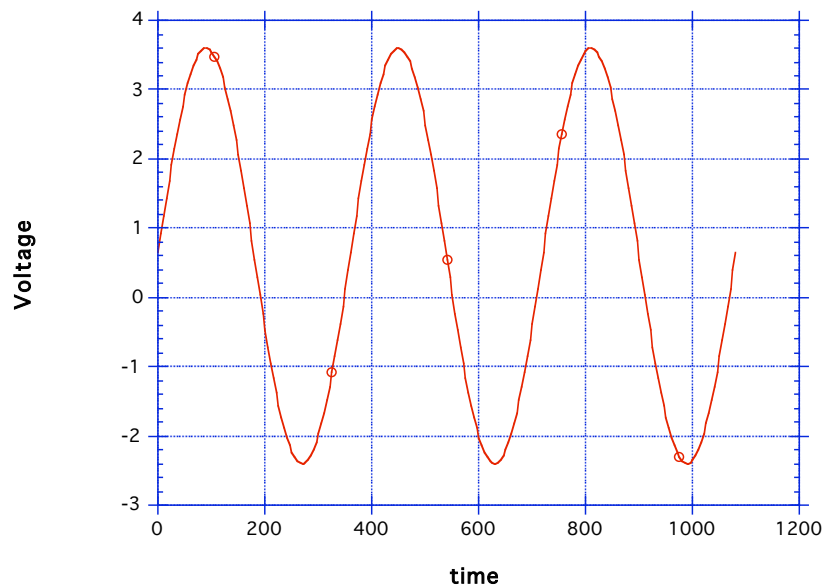

Figure 1: A 3 V sine wave with 0.6 V offset
1. *Scope Coupling*: The scope y inputs can be ac or dc coupled. The ac coupling blocks the constant part of the signal. Add some dc offset to the function generator output and switch between ac and dc coupling. Observe the effects on the scope. Figure 1 shows a sine wave with an offset.